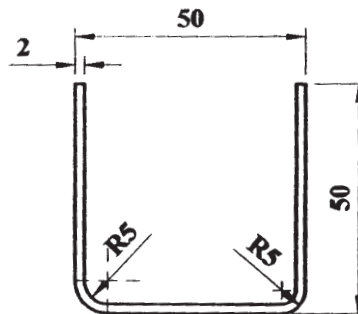

Fig. 4: Bending component
- What is spring back? Explain the different methods of reducing spring back and which one is used for the bend component in fig.4. [6]
- Calculate the bending force required for bend the component as shown in fig.4. [4]
- Find out develop length for the bend component in fig.4. [4]